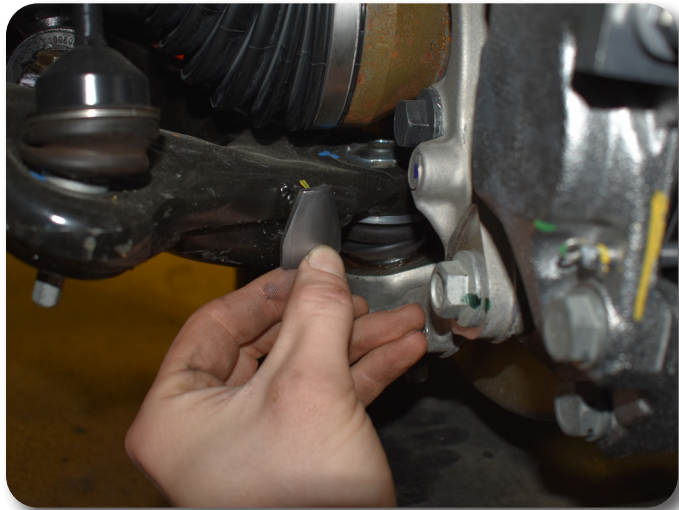

Figure 52
81. **OPTIONAL:** Weld steering stop on to lower control arm as shown Fig. 52.